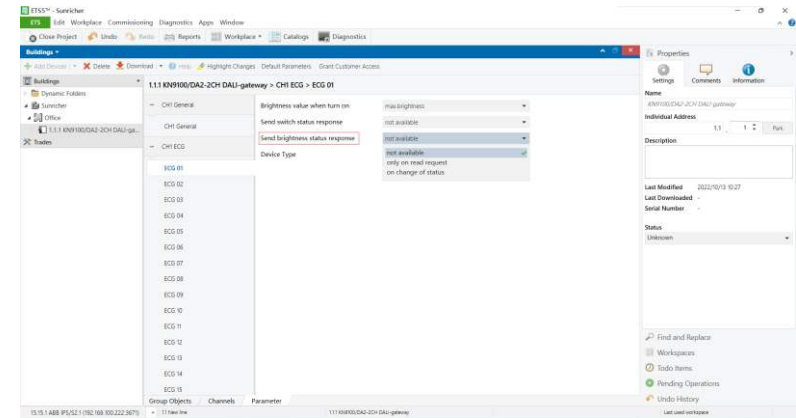

Figure 33
**Send brightness status response:** means when to report the brightness status of the ECG, drop down and tick a value, available settings are “not available”, “only on read request”, and “on change of status” as shown in Figure 33.